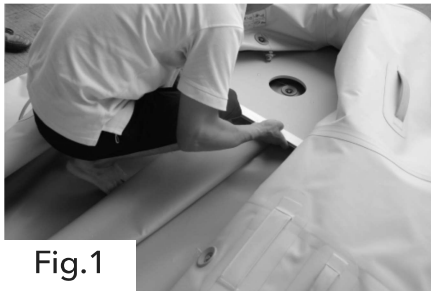

Fig.1
a. Insert front bow section of the floor.(Fig.1)